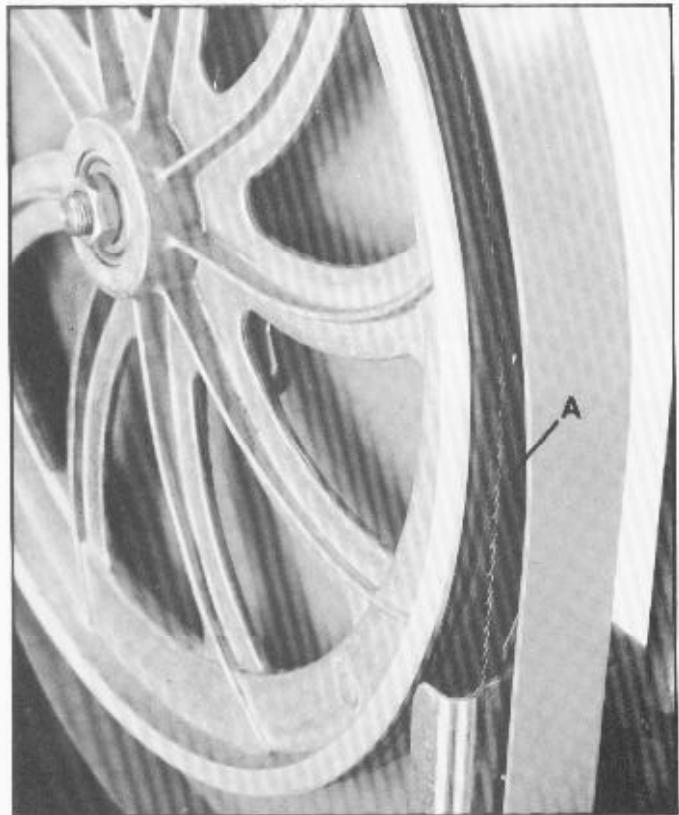
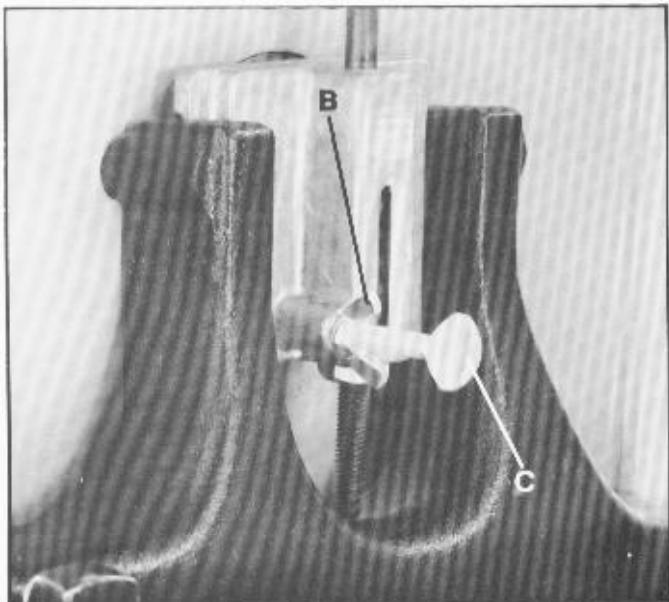

Fig. 16
Fig. 17
After tension has been applied to the blade, revolve the wheels slowly forward by hand and watch the blade (A) Fig. 16, to see that it travels in the center of the upper tire. If the blade begins to creep toward the front edge, loosen the wing nut (B) Fig. 17, and tighten the thumb screw (C). This will tilt the top of the wheel toward the back of the machine and will draw the blade toward the center of the tire. If the blade creeps toward the back edge, turn the thumb screw in the opposite direction. Adjust the thumb screw (C) Fig. 17, only a fraction of a turn at a time. NEVER TRACK THE BLADE WHILE THE MACHINE IS RUNNING. After the blade is tracking in the center of the tires, tighten the wing nut (B) Fig. 17.